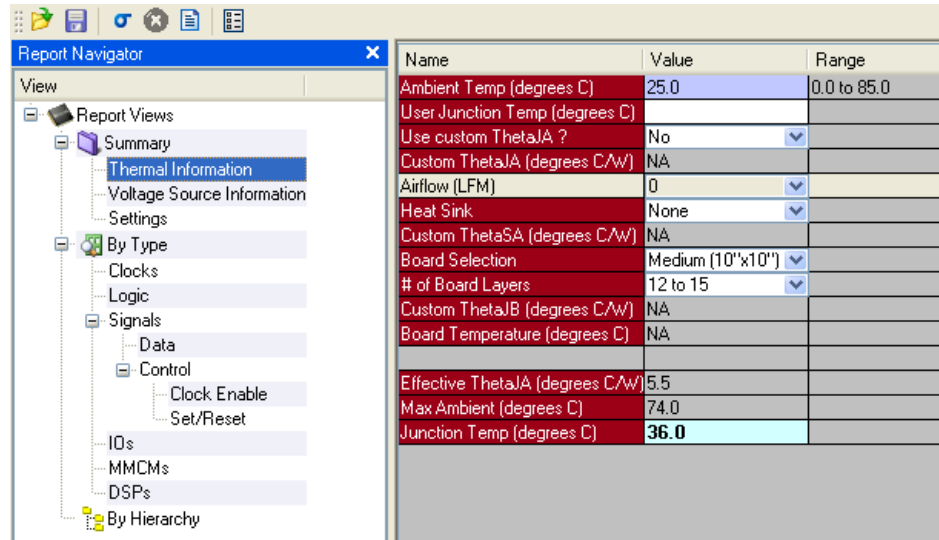

Figure 12: Thermal Information View - XPower Analyzer (XPA)
- The **Thermal Information** view shows thermal information to be used in the device power calculation, and allows you to set the relevant thermal setting to match your hardware and environment (see Figure 12). Ambient temperature is 25°C by default, but you can change this value. Also, you can enter a custom junction temperature, a custom Theta JA (if using a heatsink), and airflow information. This thermal information directly affects your power estimation.